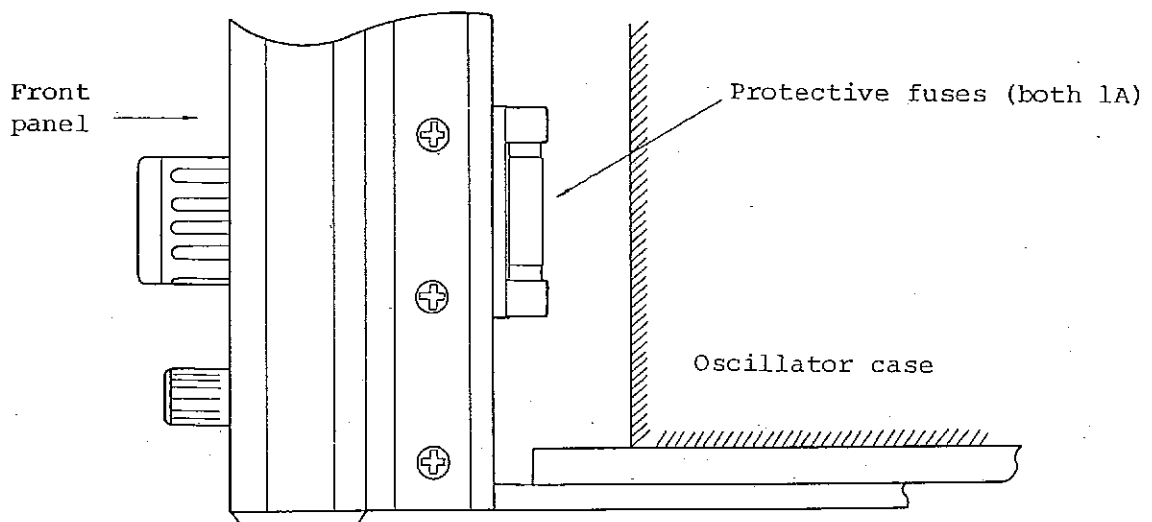

Fig. 5-1 Protective fuses
- (1) Verify that the power cable is disconnected from the instrument.
- (2) Place the instrument upside-down.
- (3) Remove six screws from the bottom cover and pull up the cover off the instrument.
- (4) The protective fuses are located as shown in Fig. 5-1.